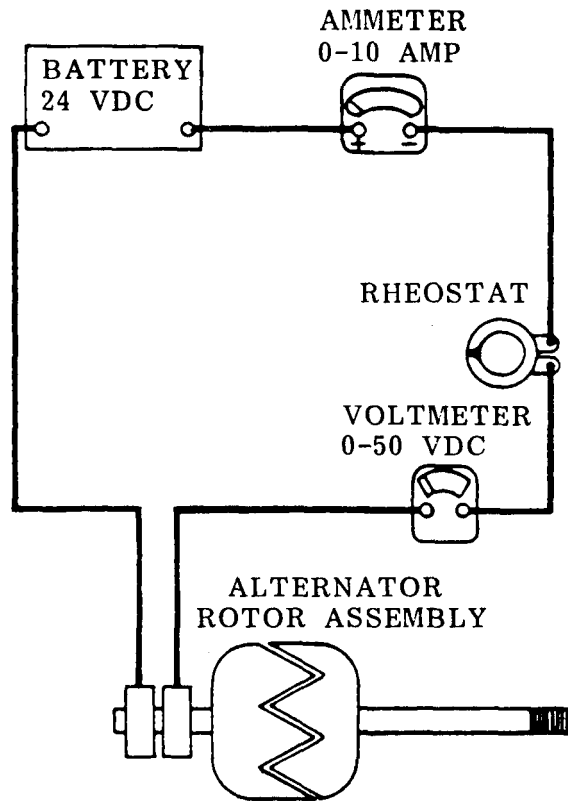

Figure 7-7. Rotor Assembly Current Draw Test Circuit.
- (8) Visually inspect rotor assembly for rub marks and burns or other evidence of shorting. Inspect shaft for worn key slot and bearing surfaces.
- (9) Test rotor assembly as follows:
- (a) Install rotor assembly in test set-up as shown in figure 7-7.
- (10) Replace rotor assembly if inspection and test requirements are not met.
- (11) Inspect voltage regulator connector and cover assembly for cracks, corrosion, and evidence of shorting or other damage.
- (12) Inspect fuse holder for cracks, corrosion, and other damage. Check fuse for burned out condition. Check fuse for continuity if in doubt.
- (13) Inspect brush assembly for corrosion and excessive wear.